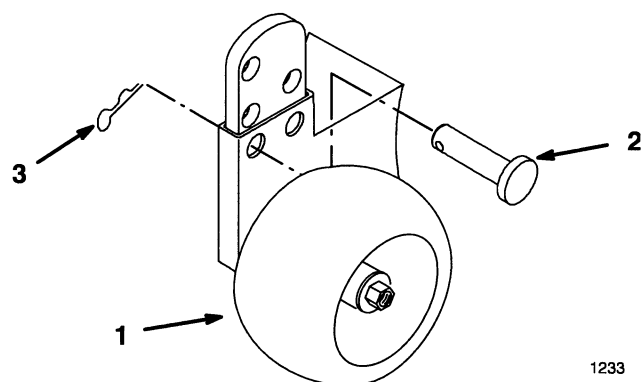

Figure 21
2. Remove hairpin cotter and pin to change hole location (Fig. 21).
3. Select a hole position so the gage wheel is $\frac{3}{8}$ " (9.5 mm) off the ground for the height-of-cut to be used (Fig. 21).